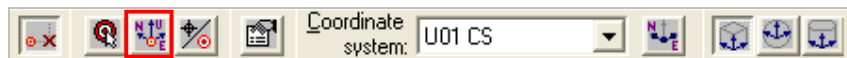

Figure 4: Set Target to Origin Option
4. Select the **Set Target to Origin** option on the **PinPoint** ribbon to move the target to the origin of the current **coordinate system**, as shown in Figure 4.